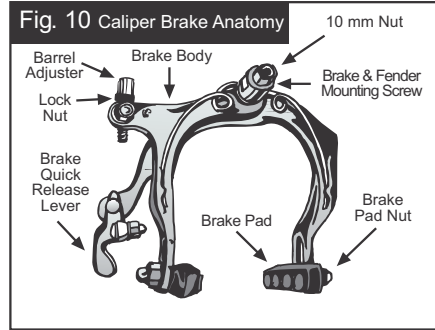

Fig. 10 Caliper Brake Anatomy
As the stroller's tires are wider than the rims, and as the brake pads are adjusted to the rims, the brake caliper will need to be opened before mounting or removing the wheel. Open the brake quick release (Fig. 10) by squeezing the brake pads together with your right hand, and pulling down and then rotating the brake quick release lever outward with your left hand.
**7 PARKING BRAKE:** The brake is a parking brake, it prevents the stroller from moving while loading and unloading it. The parking brake is not designed as a stopping brake. We do not recommend using the brake to slow or stop the stroller. The brake is intended to park the stroller on flat surfaces not on inclines. Never leave your children in the stroller unattended with or without the parking brake set! After installing the front wheel, the brake caliper will need to be placed in the closed position. Close the brake quick release (Fig. 10) by squeezing the brake pads against the wheel with your right hand and rotating the brake quick release lever in the counter (over)
clockwise direction. To set the parking brake, squeeze the brake lever and press and hold the button down, then release lever (Fig. 13 & 14). When the brake is properly set, the button will remain depressed and the lever will appear as shown in Fig. 14. To release the parking brake, simply squeeze the brake lever and the button will "pop" up. For the parking brake to work correctly, it is critical that the brake be adjusted properly. Squeeze the brake lever and verify that the brake pads contact the rim as shown in Fig. 16. If they are misaligned, use a 10mm wrench to loosen brake pad nuts, slide pads into correct position and tighten securely. The cable tension is pre-adjusted at the factory yet the brake cable will need periodic adjustment (as the cable stretches slightly and the black cable housing compresses over time). To adjust cable tension, there are two barrel adjusters in the brake assembly (Fig. 10 & 13). To tighten the cable, loosen the lock ring and turn the barrel adjuster in the counter clockwise direction. Secure the barrel adjuster in the new position by tightening the lock ring against the caliper or brake lever body. There should be a 3/16" clearance between the rim and brake pads as shown in Fig. 15. If gap is not equal on each brake pad, you can reposition the brake on the frame by loosening the 10 mm nut (Fig. 16) with a 10mm wrench, adjust to the gap shown in Fig. 15 and retighten the same nut. If you do not understand these instructions, or feel the brake is adjusted incorrectly, take the stroller to your dealer for proper adjustment. If your brake pads (Fig. 10) are worn, see your dealer for replacements.
**14 FOLDING:** Remove children from stroller. Remove the contents of the Low Boy cargo pouch. Unbuckle the AFOD strap (Fig. 17). The shock absorbers must be in position 1 (Fig. 2) before folding. Press both the right and left handlebar release levers (Fig. 3), and fold the handlebar forward as shown in Fig. 23. Locate the frame release handle underneath the seat (Fig. 24) and pull upwards sharply. This will allow the lower frame to fold together, as shown in Fig. 25. The folded stroller can be made even more compact by removing the front and rear wheels. The front wheel is removed by opening the brake quick release (Fig. 10), opening the wheel quick release and removing the wheel (see section 6). Note that it is often easier to open the brake quick release before you fold the handlebar. The rear wheels are removed by opening the rear wheel quick release (Fig. 4), and removing the wheels.